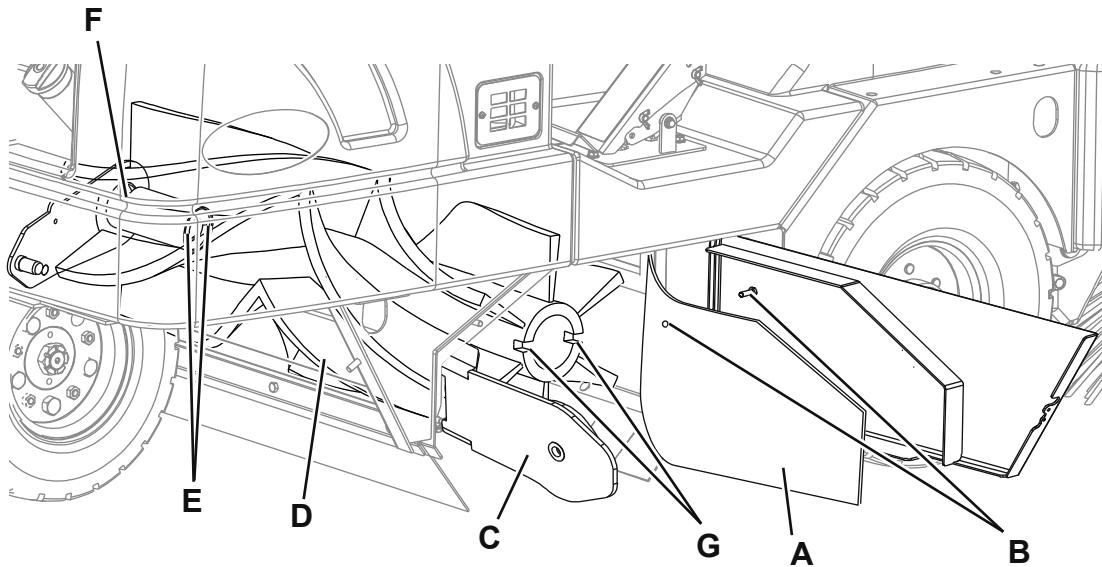

Figure 2
3. Turn the ignition key (57) and start the machine.
4. Lower the main broom with the lever (53).
5. Turn the ignition key (57) to "O" to stop the machine.
6. Open the right panel (18).
7. Move aside the right side skirt (A, Fig. 2) and fasten it with the pin (B).
8. Pivot the idler arm assembly (C) out of the main broom core (D).